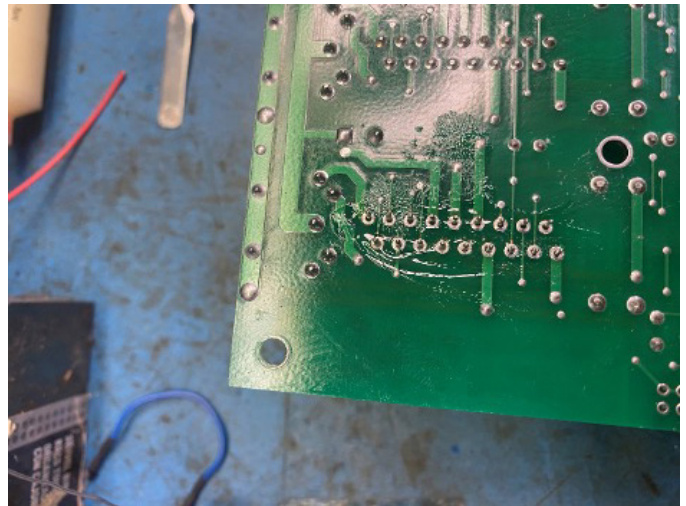

FIGURE 12
7. Put the new driver chip in using the soldering station (see Figures 12 and 13).